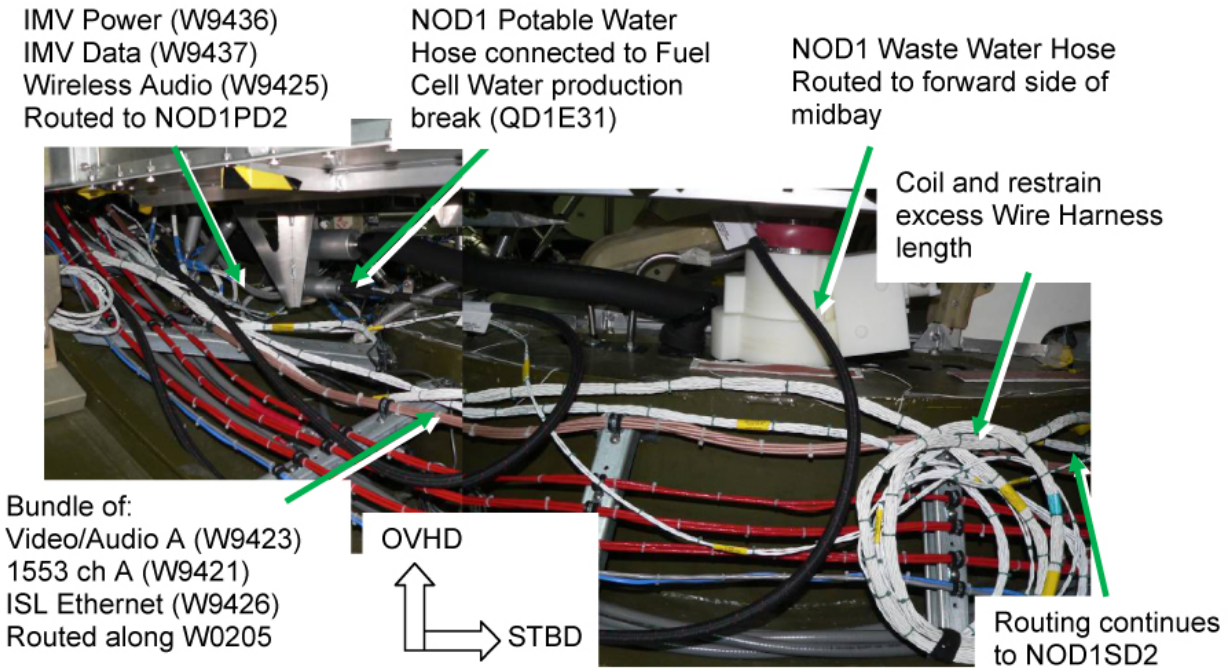

Figure 26. Routing of Cables/Hoses in Nadir Midbay (View Looking Forward).
Refer to Figure 26.
15.37 Route NOD1 Video/Audio Bus A Cable (W9423) along W0205, gathering excess wire length near center of Midbay. Coil excess wire length, maintaining minimum bend radius of six times the Harness diameter; coiled Wire Harness may cross any other Wire Harness without EMI risk. Restrain Wire Harness to secondary structure (Wire Ties). Refer to Figure 26.